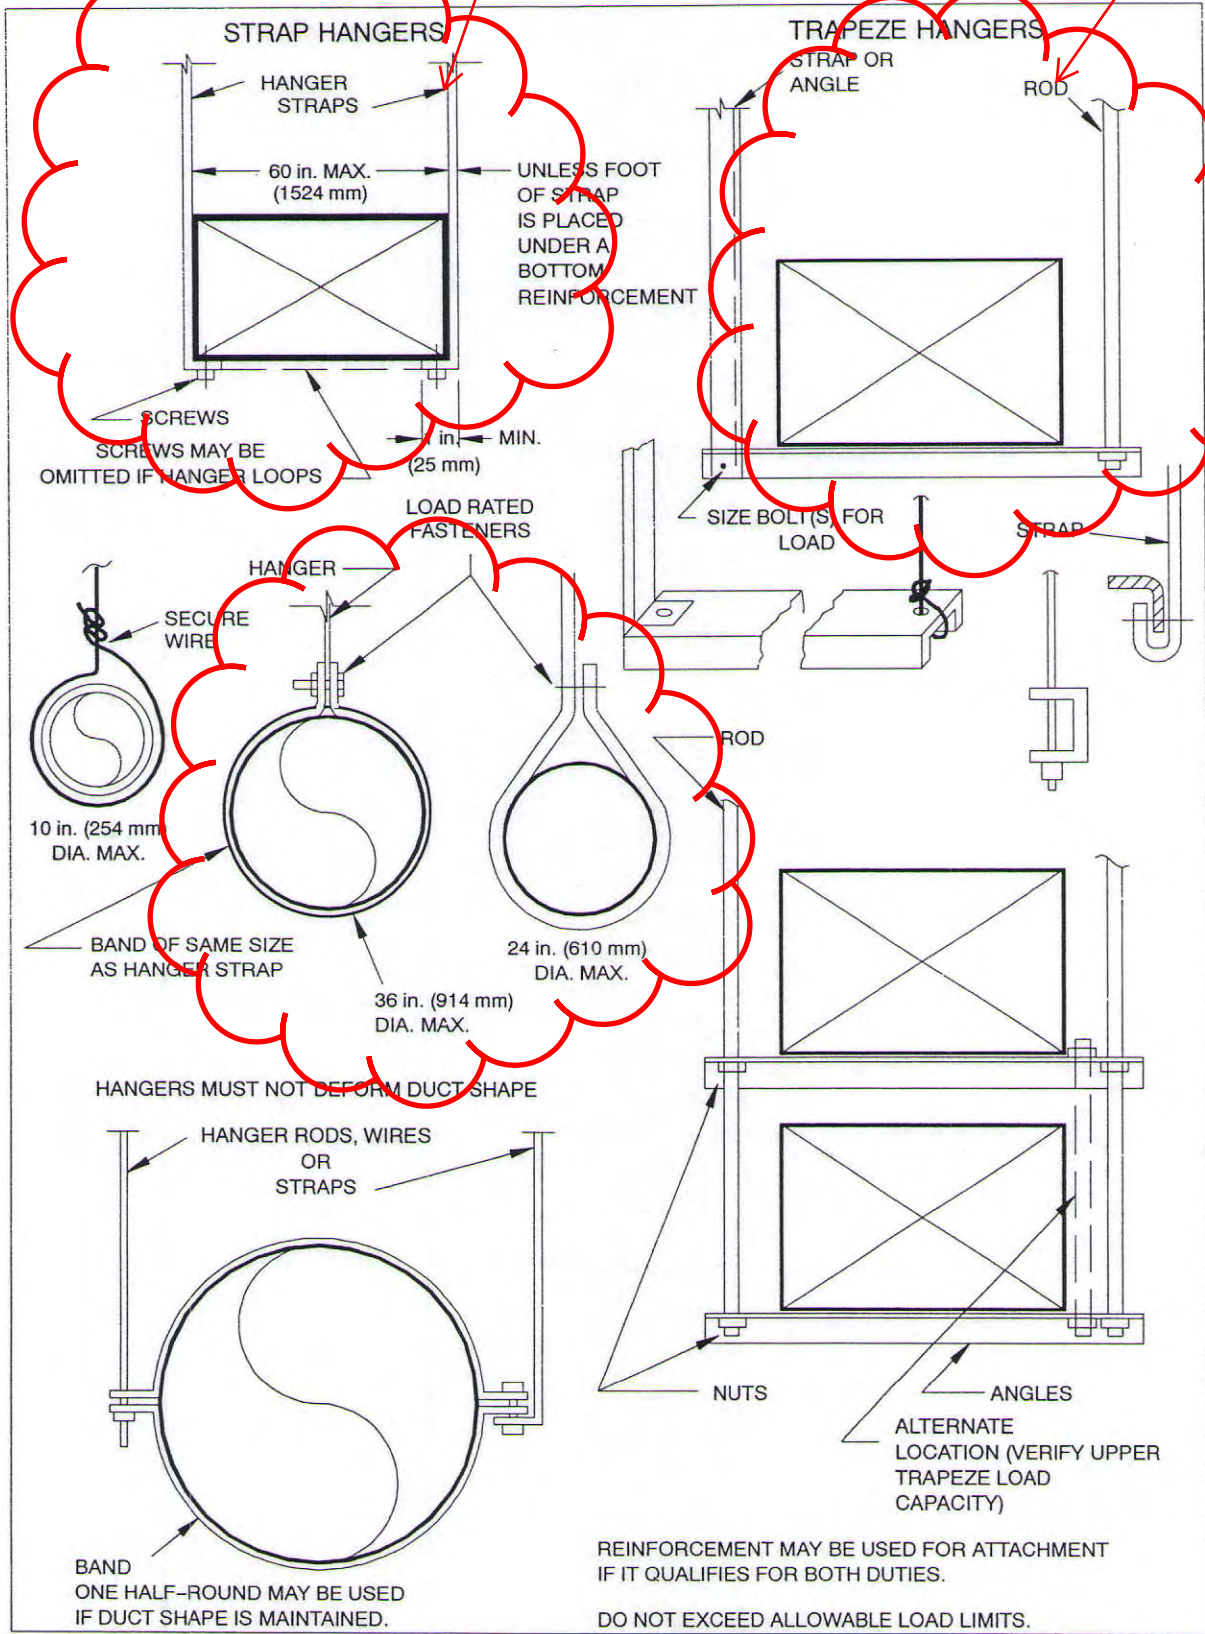

FIGURE 5-5 LOWER HANGER ATTACHMENTS
- g. For lower attachments see Fig. 5-5.
- b. See Figure 5-5 for lower supports.